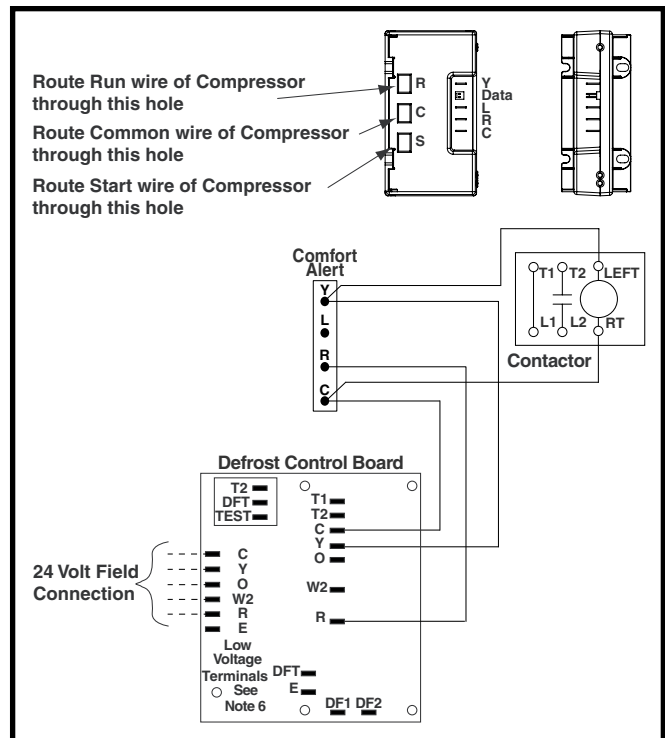

Figure 4. Current HP Wiring with Comfort Alert
1. Remove all wires from the Comfort Alert, including wires that run through the comfort alert sensing holes. See Figure 4.